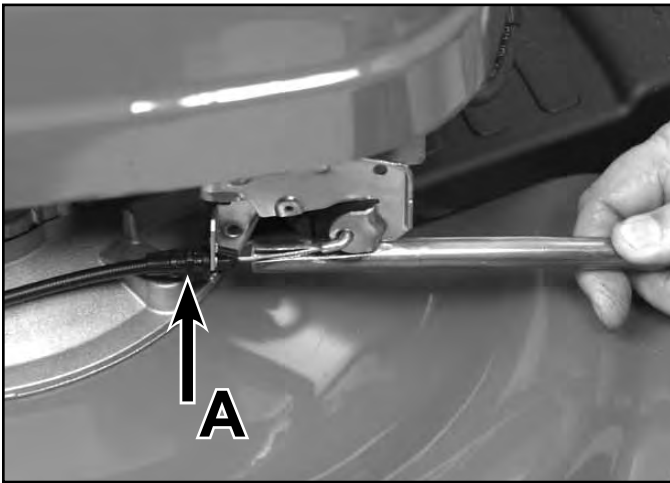

Fig 067
10. Remove the stop cable from the engine (Fig. 067) and disconnect the self-propel cable spring from the transmission.